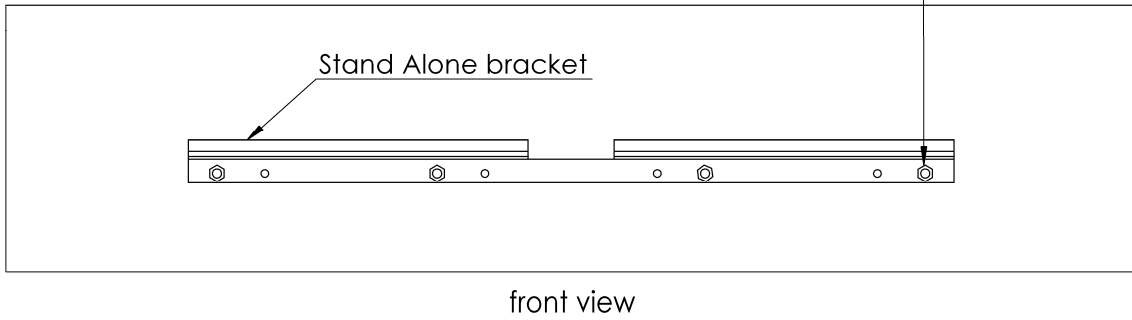

Figure 3: Concrete Wall Mounting Detail
3. Attach the unit to the mounting bracket. (See Figure 3 on page 17).